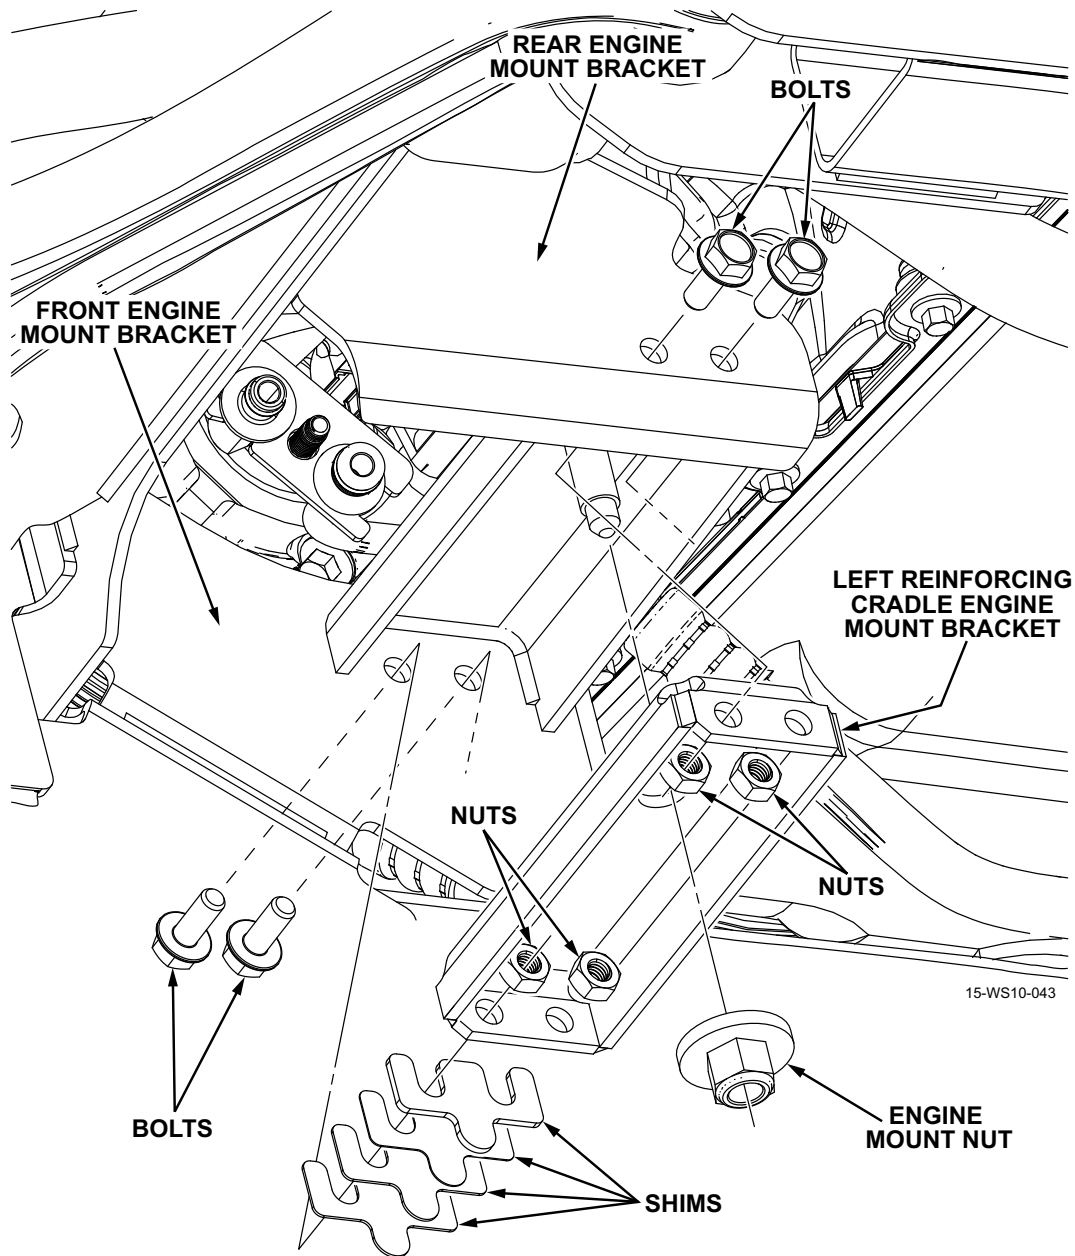

Figure 5: Reinforcing Cradle Mount Bracket Installation
9. Angle the Reinforcing Cradle Mount Bracket up and against the rear engine mount bracket (lift engine slightly if needed), and align with the holes drilled in the previous steps. Hold against the rear bracket and *lightly secure* with the Engine Mount Nut (See Figure 5).
10. Apply high strength thread locking fluid to four bolts and loosely secure the new Reinforcing Bracket to the drilled front and rear engine mount brackets (See Figure 5).